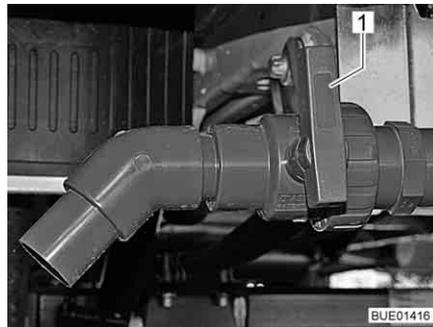

Fig. 234 Drain cock
- Turn the handle (Fig. 234,1) of the drain cock in flow direction.